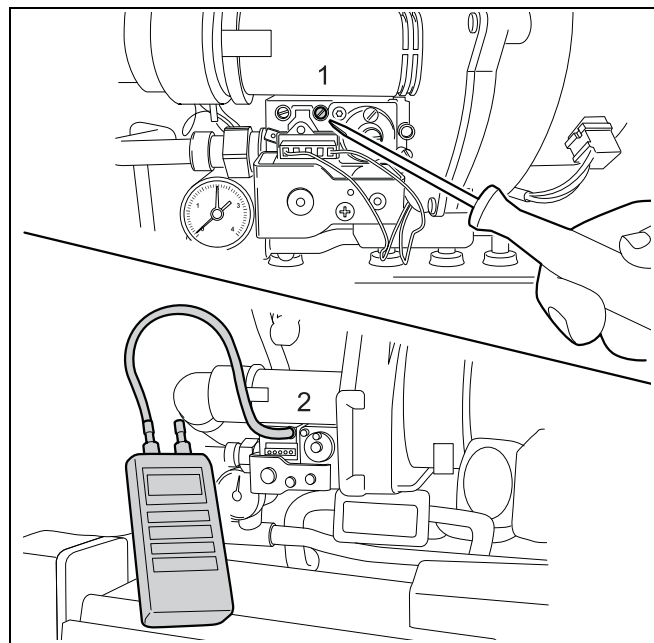

fig. 58 Checking the gas/air ratio
- Open the screw plug on the testing nipple for the burner pressure (fig. 58, pos. 1) by two turns.
- Use a hose to connect the + connection of the pressure gauge to the burner pressure measuring nipple (fig. 58, pos. 2).